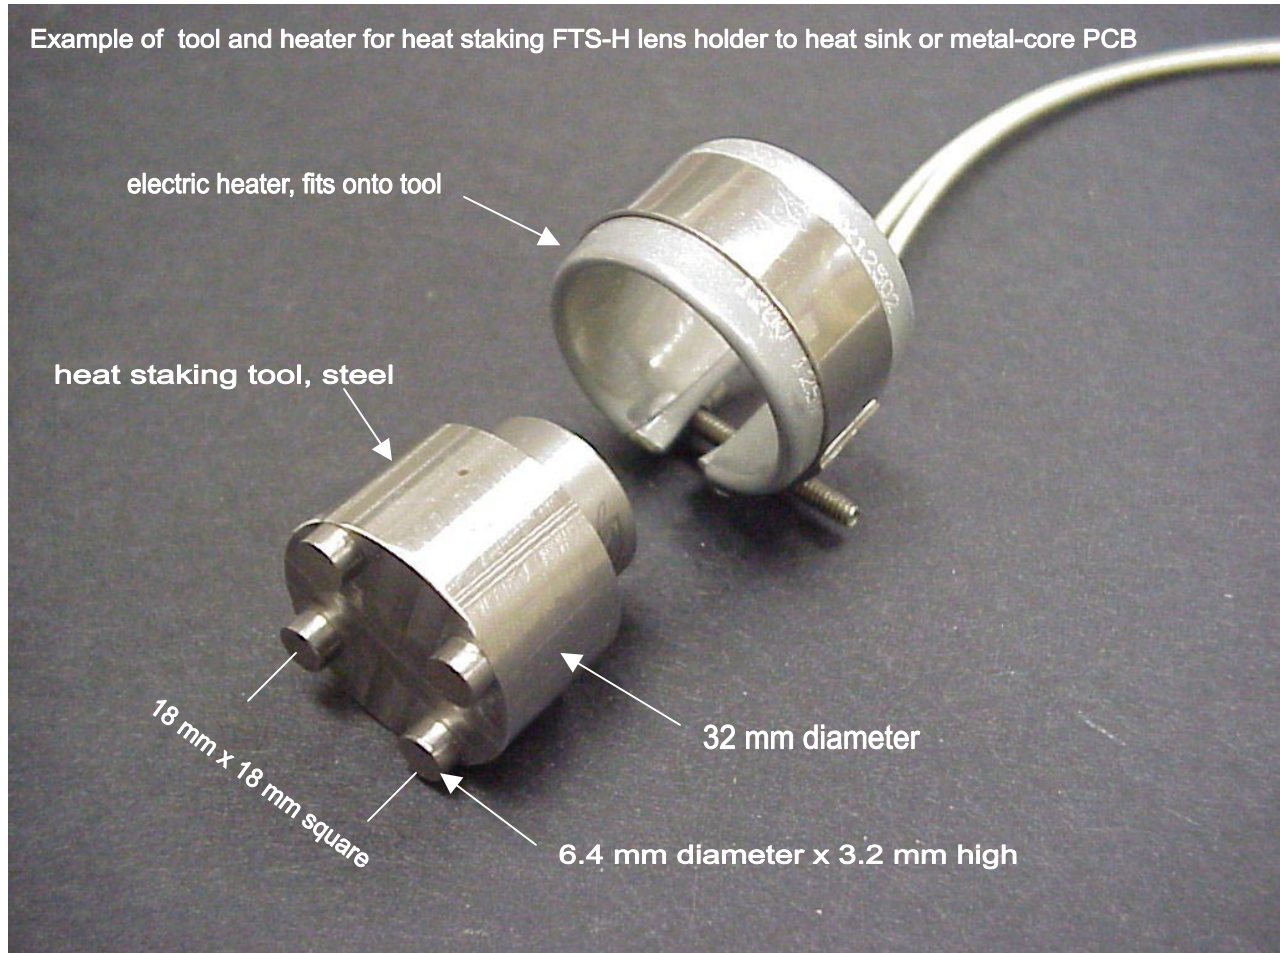

Figure 2. Example of tool and heater band for heat staking FTS-H lens holder to heat sink or metal core PCB
- 4-post heat staking fixture with variable temperature heater band (Figure 2). This fixture with heater band should be attached to your pneumatic press.